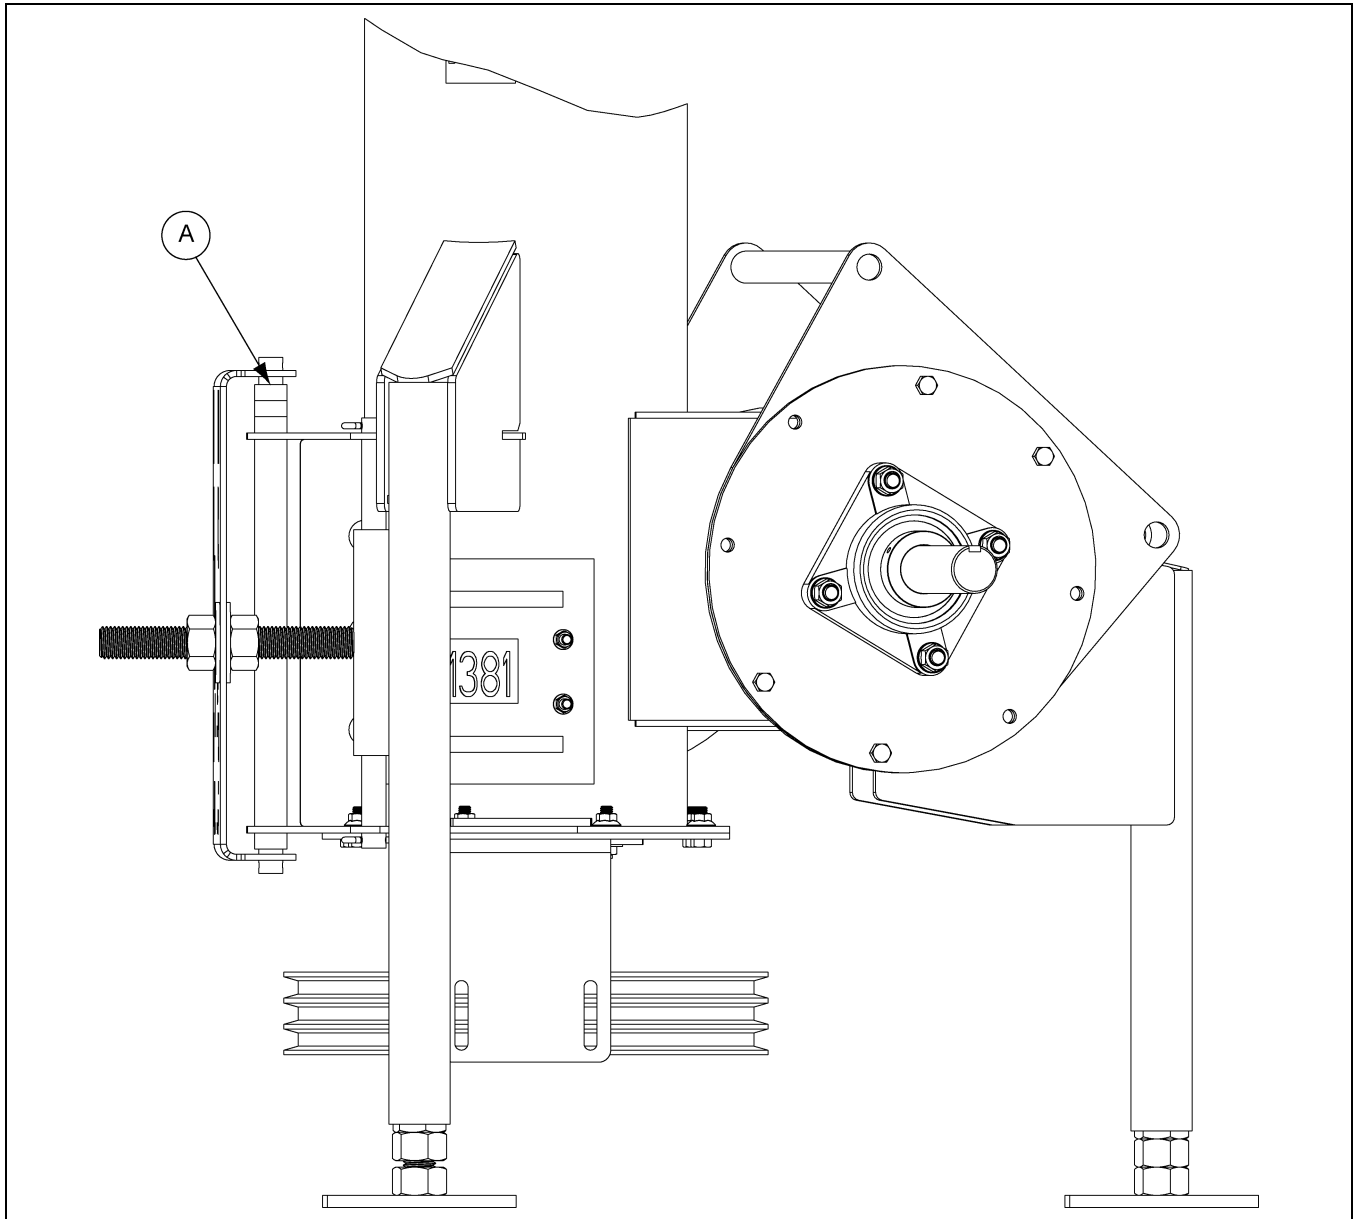

Figure 3Q
- B. Install pulley onto motor shaft and make sure that it is aligned with the flight pulley. It may be necessary to move spacers to gain shaft alignment. *(See Figure 3P below and Figure 3Q on Page 29.)*